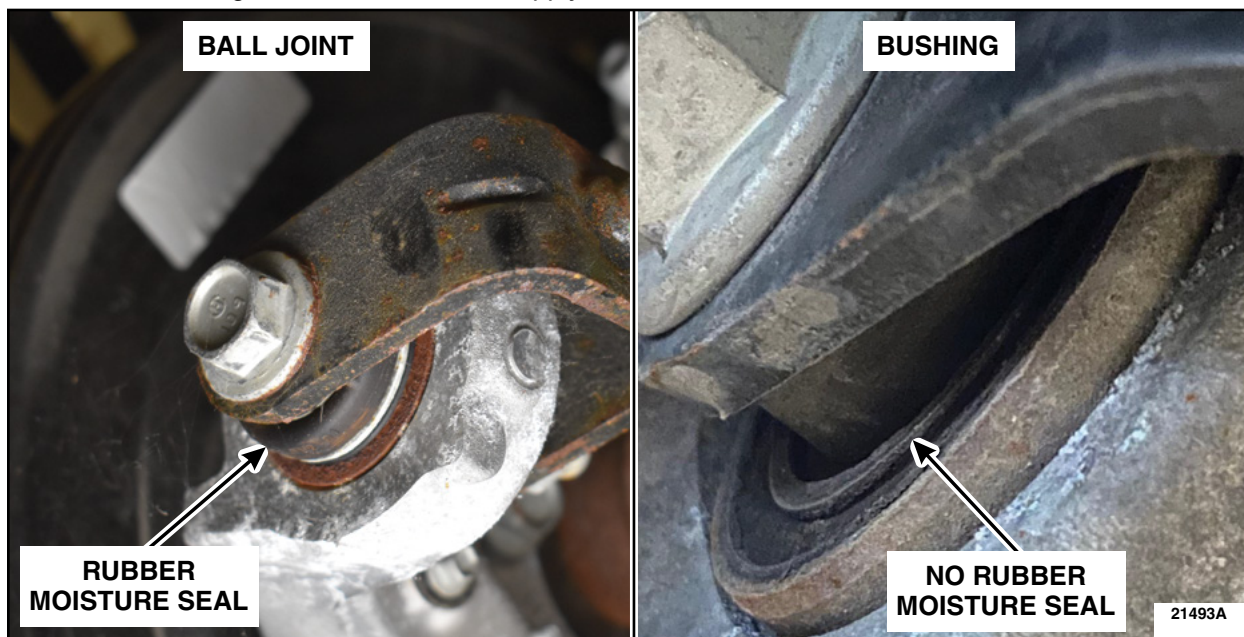

FIGURE 2
3. Inspect the rear toe link at the rear wheel knuckle to determine if the vehicle is equipped with a ball joint or bushing. A ball joint will have a rubber moisture seal covering the connecting joint. See Figure 2.